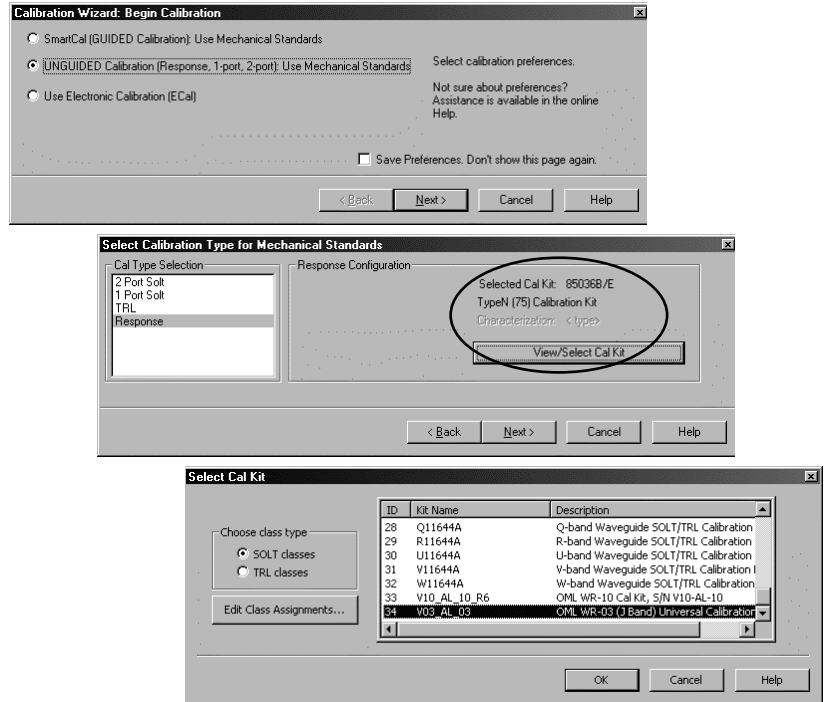

Figure 42. Select *Unguided* calibration, and calibration kit of choice.
2. Select **UNGUIDED Calibration**, then click **Next>** (Figure 42, top)
3. For *Unguided* calibration, the user must select the calibration kit because the default (or the kit last used) is often not what you want. Click on **View/Select Cal Kit** (Figure 42, middle) and then use the scroll bar to select the calibration kit of choice (Figure 42, bottom). Click **OK**.